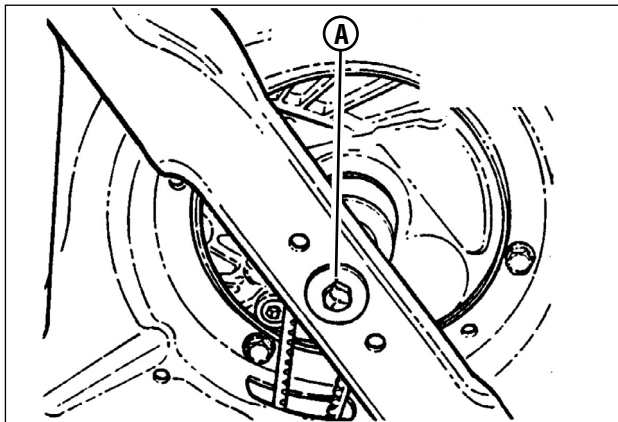

Figure 19: Tightening the blade cap screw
2. Tilt the mower up on its rear wheels for access to the blade cap screw (**A**, **Figure 19**). Do not tilt the mower with the spark plug or carburetor down.